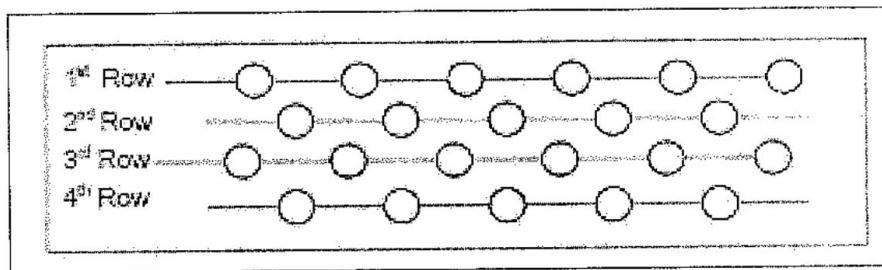
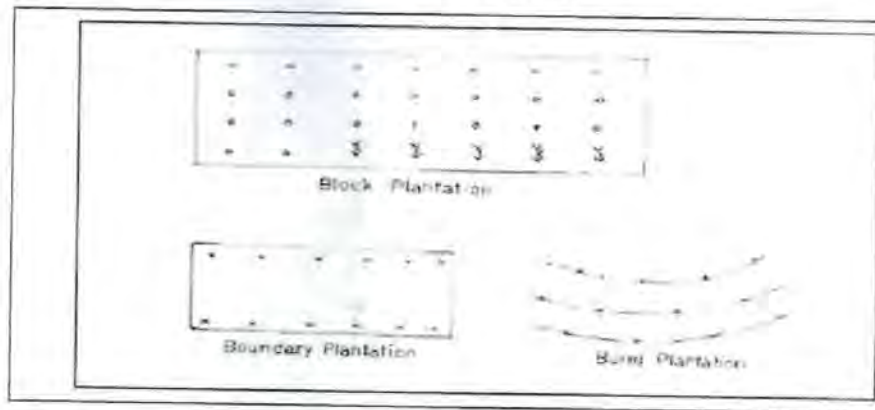

Figure 4: Staggered Alignment of the Pits in Plain Area
Figure 6: Geometry of Plantation
- Plantation should have a minimum of 3 rows where possible, with height hierarchy, to withstand strong winds and barrier against noise, odour and suspended particulate matters at STP, IPS and MPS sites. Typical examples of tree plantation in multiple rows as shown in figure 4 to figure 6. These patterns should be followed in sewerage project sites (i.e. STP, IPS, MPS etc.).